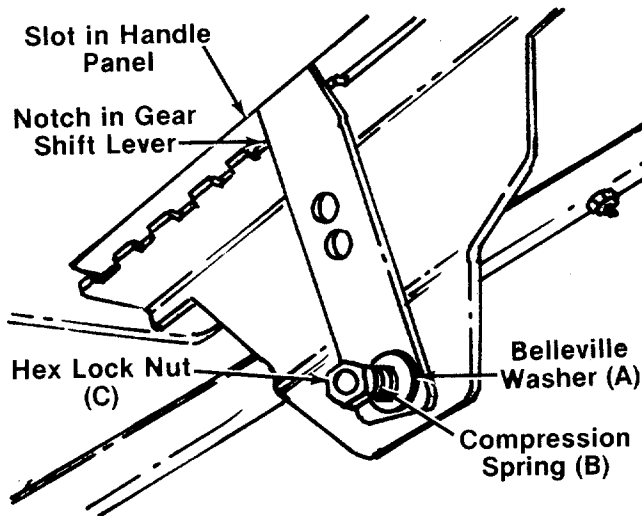

FIGURE 11.
1. Assemble notched edge of gear shift lever so notch faces forward. Place gear shift lever through slot in handle panel. Place bottom hole in gear shift lever over weld stud. Secure with belleville washer (A), compression spring (B) and hex lock nut (C). See figure 11.
2. Tighten hex lock nut until nut is flush with stud. See figure 11.